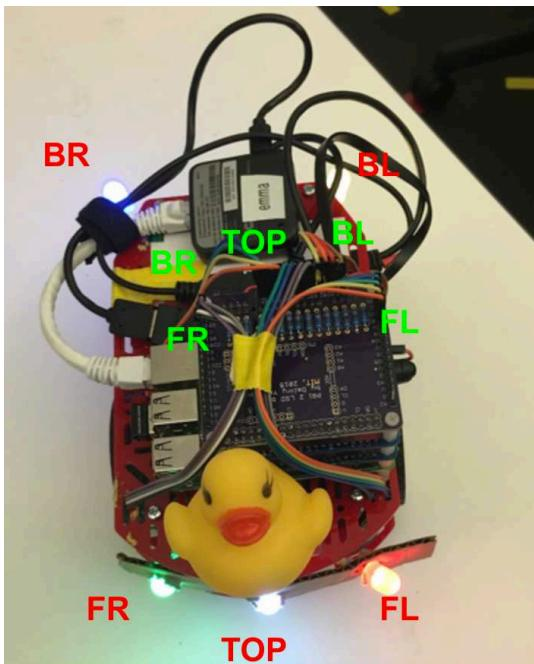

Figure 5.4
- ✓ Before tighten the front bumper, you should organise the wires of LEDs going through the right holes of chassis. Take a look in Figure 5.4 The center LED should be bent at a right angle in the direction that the wire is fed through the body.
The LEDs are wired according to Figure 5.4.